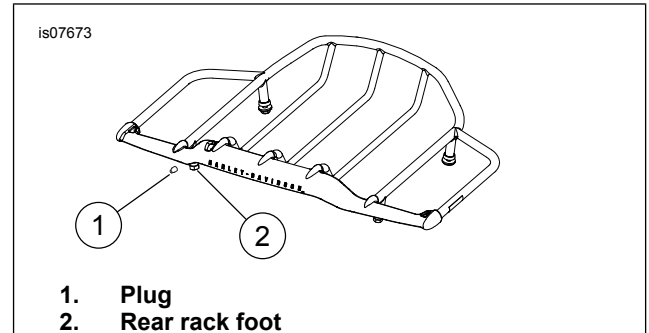

Figure 1. Rack Plug and Foot
2. See Figure 1. Remove rubber plug (1) from bottom rear rail on left side of rack.
3. Use line wire feeder in kit to thread through left rear rack foot (2) and out through the back opening of rail.